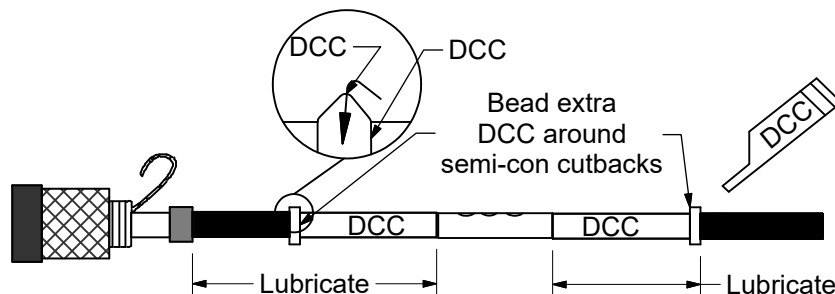

Figure 6
- A. Put on the glove provided in the kit and then use the gloved hand to lubricate the cable insulation up to the semi-con cutback and marking tape with the supplied DISCHARGE CONTROL COMPOUND (DCC). Be sure to use extra DCC to form a bead around the semi-con cutbacks on each cable. See Figure 6 for areas to lubricate.